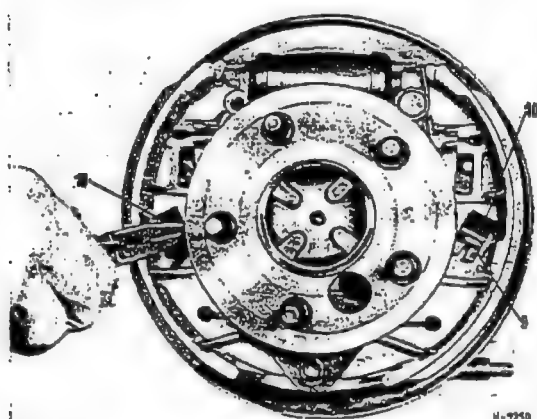

Fig. 42-9/7
- Remove the two flat shaped springs (10) using a pair of pliers to turn the retaining pin (9) until the flat shaped spring can be taken out. Then take the retaining pins out of the brake anchor plate (Fig. 42-9/7).